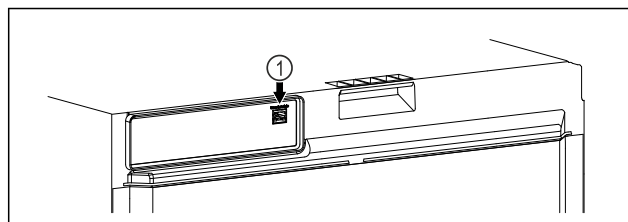

Fig. 117
- ❑ SmartModule Fig. 117 (1) has been inserted.